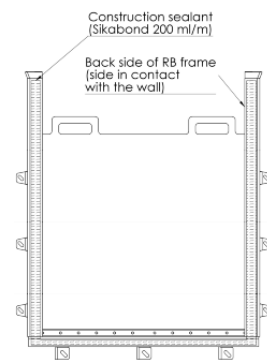

Figure 14
- Apply construction sealant all around the perimeter of the frame. Be sure not to get sealant on the gate's seals and/or guides, as this may cause leakage or damage. (See Figure 14)